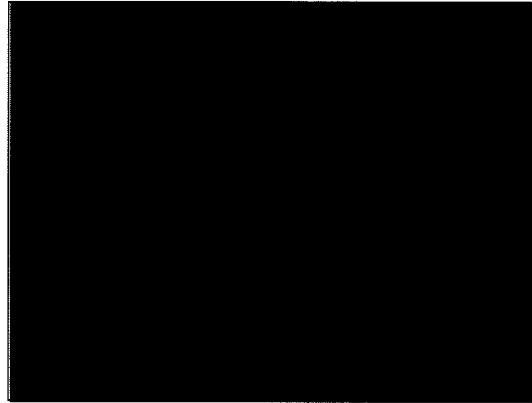

Figure 29
The solution tank fill port is located at the left side of the machine (see figure 29). To fill the solution tank, follow this procedure:
4. Fill the solution tank with clean water (see figure 29).